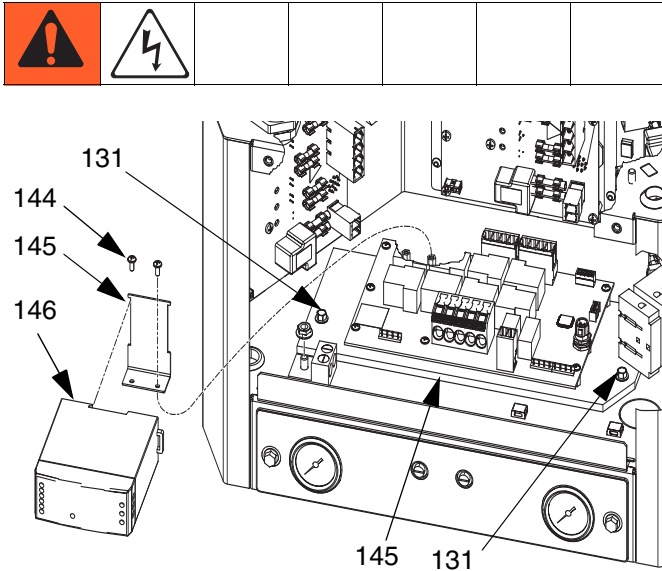

FIG. 51: AWB and Power Supply
3. Remove 2 screws (131) securing AWB (143) to electrical enclosure (1) then carefully remove AWB.
4. Remove power supply (146) from power supply bracket (145) by releasing mounting tab on the side of the power supply. See FIG. 51.
5. Remove two screws (144) securing power supply bracket (145) to AWB (143) and remove power supply bracket. See FIG. 51.
1. Use two screws (144) to secure power supply bracket (145) to new AWB (143). See FIG. 51.
2. Mount power supply (146) to power supply bracket (145). See FIG. 51.
3. Connect connector (labeled AWB-J1) on power supply harness (147) to J1 on AWB (143). See **Electrical Schematics**, page 78.
4. Use two screws (131) to install AWB (143) to electrical enclosure (1). See FIG. 51.
5. Reconnect cables to AWB (143).
2. Remove electrical enclosure front access door (10).
3. Remove power supply (146) from power supply bracket (145) by releasing mounting tab on the side of the power supply. See FIG. 51.
4. Disconnect screw terminal connections between power supply (146) and power supply harness (147) according to the following table. See FIG. 51.
1. Make connections between power supply harness (147) and new power supply (146) according to the following table:
2. Reattach power supply (146) to power supply bracket (145). See FIG. 51.
3. Install electrical enclosure front access door (10).